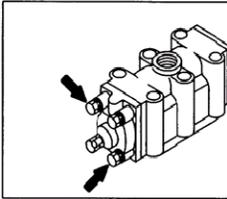

Fig. 7.2A
- Aluminum motor: remove the 4 bolts cap A and 4 bolts cap B. Remove cap A, cap B, packing, plain washer, cushion and gasket. [Fig. 7.2A] Pull out the C-spool assembly.